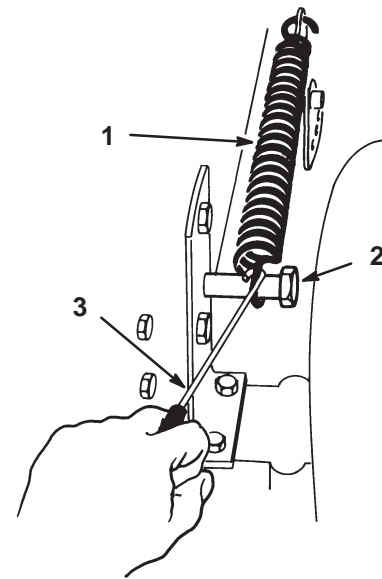

Figure 16
3. Remove the height-of-cut lift assist spring from the retaining bolt (Fig. 16), using the spring tool provided with the machine. The spring is between the frame and the right rear wheel.
13. Move the height-of-cut lever into the “D” notch. Hook the lift assist spring onto the retaining bolt for storage (Fig. 16).